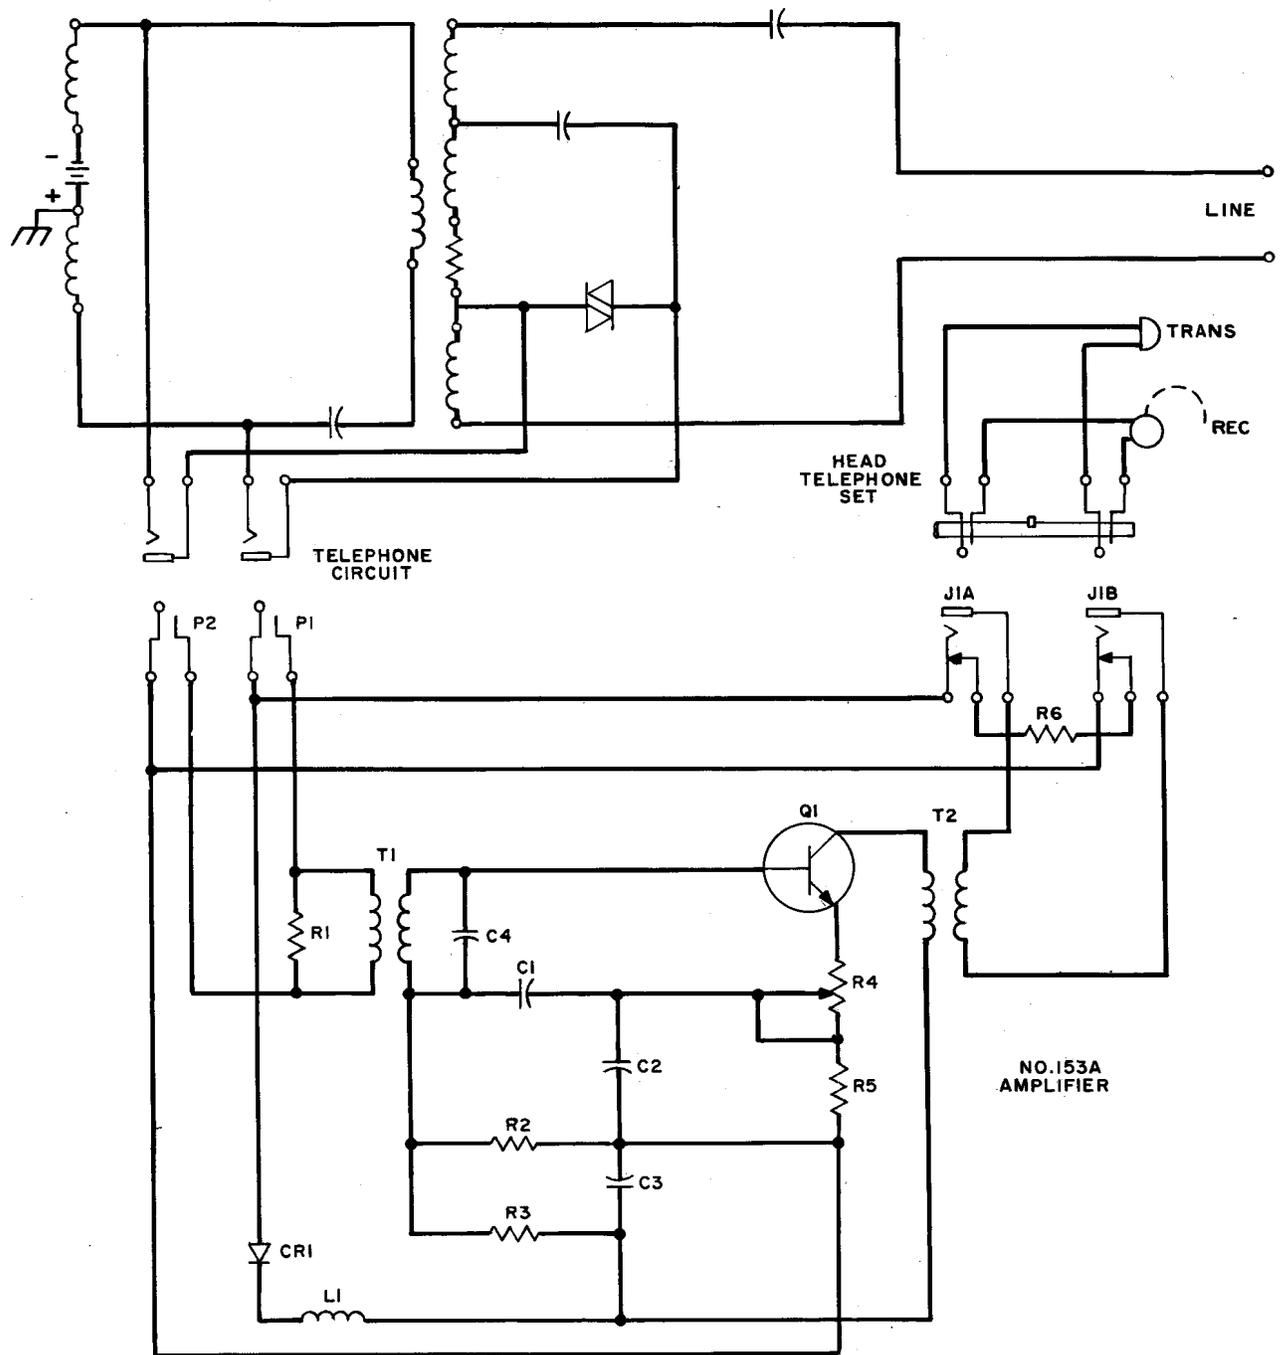

Fig. 4 - Schematic of Amplifier in Normal Telephone Circuit
**3.01** In normal use the transmitter of the head telephone set is in parallel with the amplifier power leads and acts as a shunt to limit the battery supply to approximately 5 volts as shown in Fig. 4. To prevent damage to the transistor due to voltage overload, when the head telephone set is removed from the amplifier jacks, a 50-ohm shunt is bridged across the tips of the jacks. The insertion of this amplifier entails a loss of no more than 1db in the transmitting circuit.